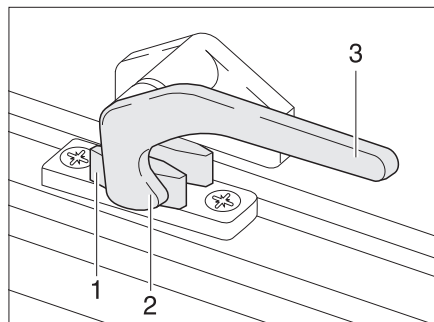

Fig. 38 Catch lever in "closed" position
- Turn the catch lever (Fig. 38,3) a quarter turn towards the centre of the window.
- Turn the catch lever (Fig. 38,3) a quarter turn towards the window frame. The locking catch (Fig. 38,2) is located on the inside of the window catch (Fig. 38,1).
- "Firmly closed" (Fig. 38)